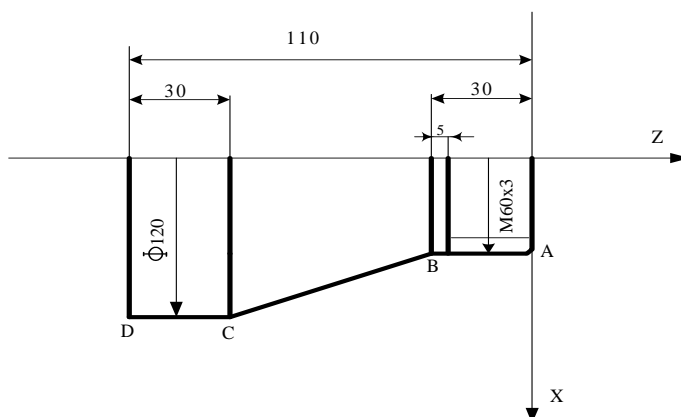

Fig. 3-3-3-3
**Example:** using G90 compiles a program shown in Fig. 3-3-3-3, and using G92 executes machining thread.